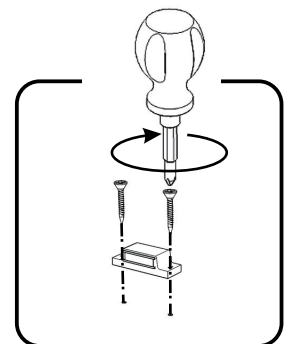

Figure 2
Attach Magnets to Front Stretcher (E) with Wood Screws for Magnet. (See Figure 2)